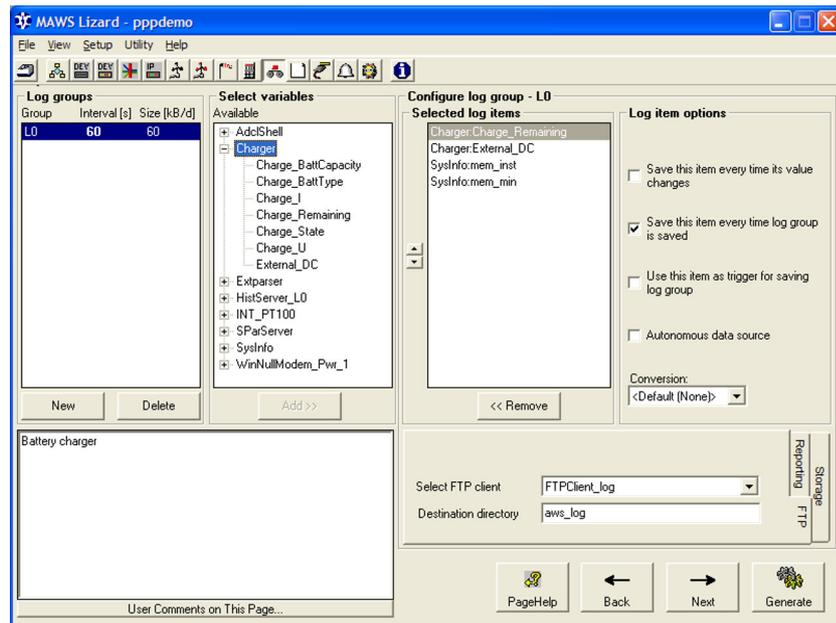

Figure 163 Configuring Log File Transfer
6. In the **Logging** view, configure the logs to be transmitted to the FTP server. See Figure 163 on page 324.